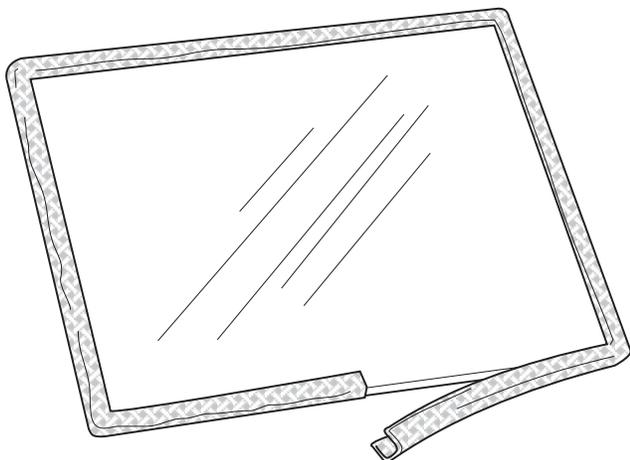

Figure 28. Wrap the gasket around the glass panel.
4. Apply the gasket to the panel, wrapping the adhesive side down around the panel edge. See fig. 28.